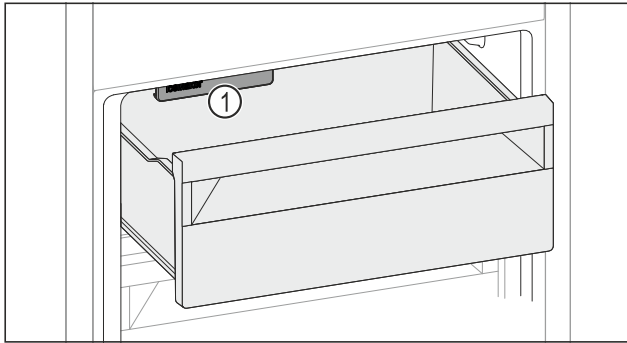

Fig. 144
- ▶ Pay attention to the IceMaker Fig. 144 (1).